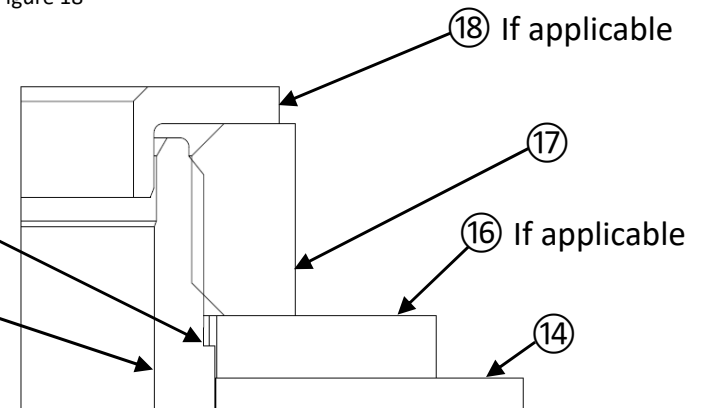

Figure 20
Make sure the alignment of the hexagon shape of the cap ⑭ and washer ⑰ are fully engaged on the shaft hexagon shape before applying torque to the nut ⑰ (see figure 20).